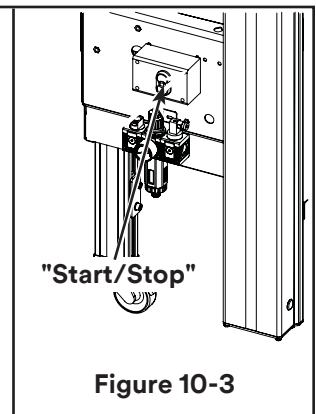

Figure 10-3
- Then press the Station "Start" Button (Figure 10-3).